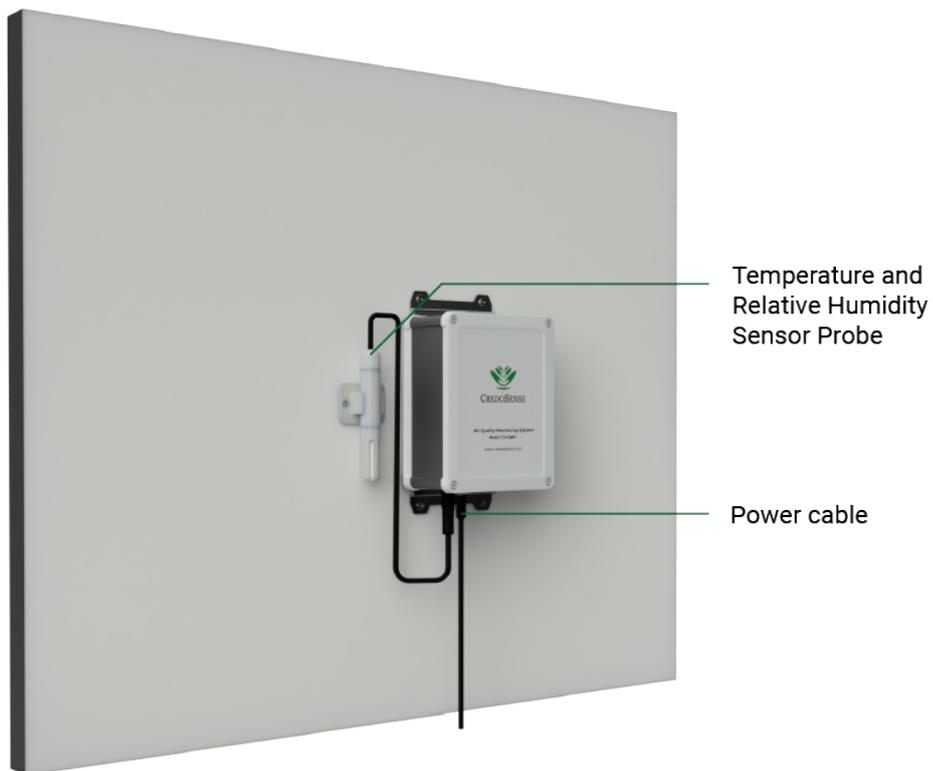

Figure 6: The CS-AQMS1 mounted on a wall.
1. Install your CS-AQMS1 securely on a wall or pole (Figures 6 and 7) using either screws or zip ties.
Figures 6 and 7 depict the CS-AQMS1 securely mounted on both a wall and a pole, showcasing the recommended installation configurations.